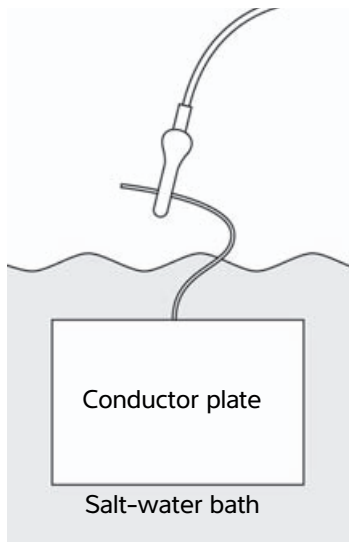

Figure 5-20 Conductor plate attachment
- a Connect the black lead to the copper or aluminum sheet in the salt-water bath as shown in Figure 5-20.